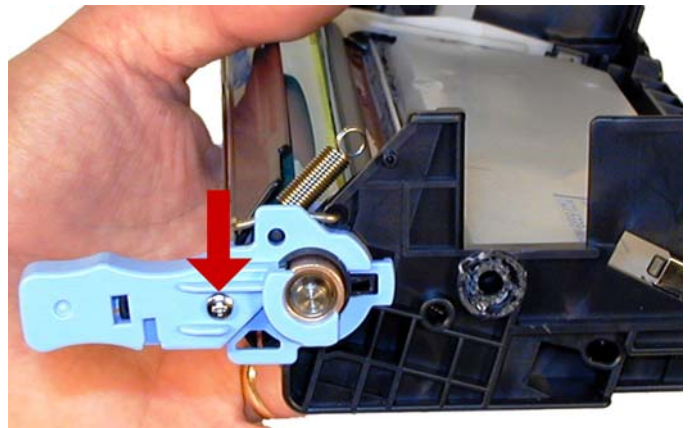

Figure 15
4) On the waste chamber non-gear side remove the small Phillips head screw, and blue handle. See **Figure 15**